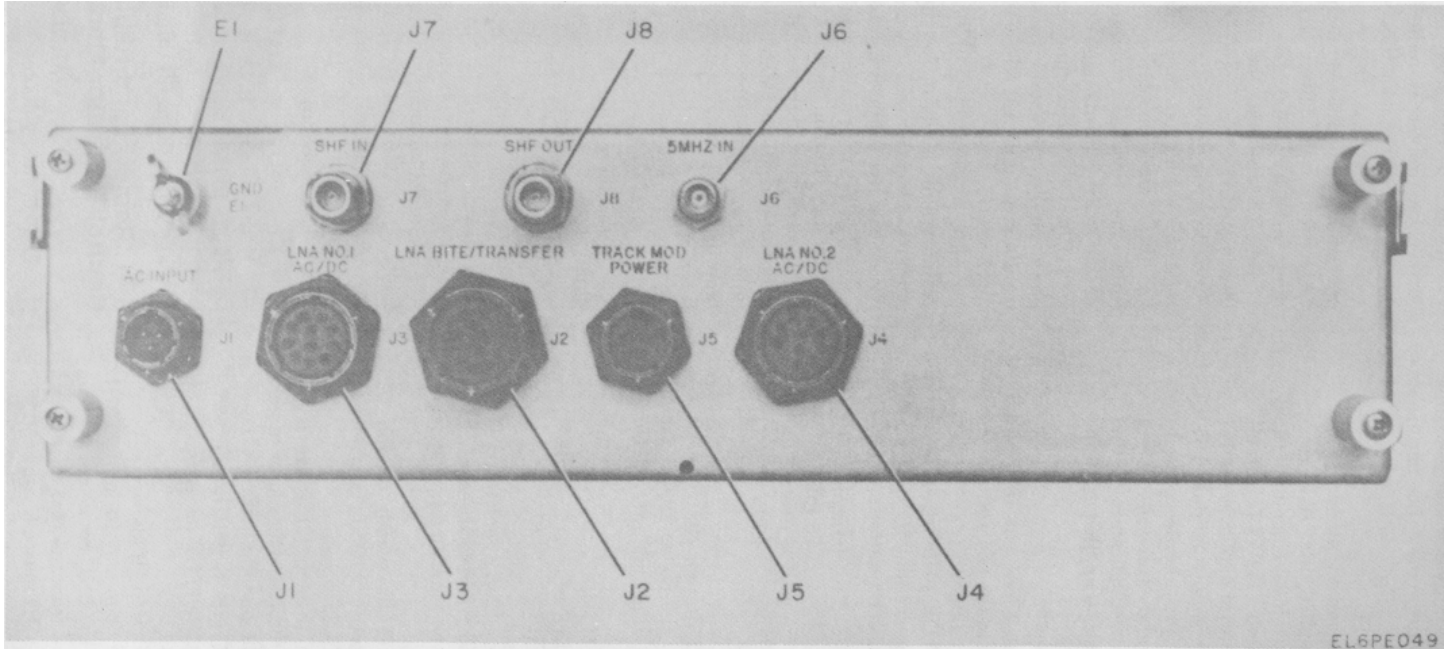

Figure 5-23. LNA Control/Translator, Rear Panel.
This voltage exists at TB1 (fig. 5-23). Exert caution if removing the 725 MHz source module A4; especially when loosening the rear captive screws. It is highly desirable to keep the receiver (on-line LNA) on the air. However, if the tactical situation permits otherwise, the AC power cable then can be disconnected from J1 on the rear panel.
d. On the rear panel disconnect all rack cables from the connectors. Remove the ground wire from terminal E1 (fig. 5-23).